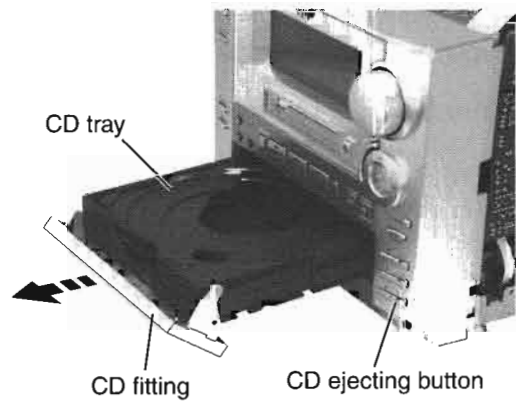

Fig.6
■ Removing the CD fitting (See Fig.6 to 8)